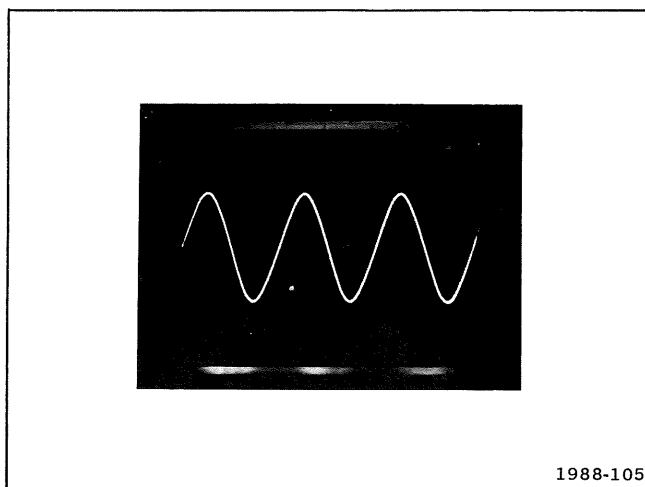

Figure 4-9. Waveform at TP 1234 on the power-supply Inverter board with the line voltage at about 20 volts.
6. If no burst waveform occurred in part 4, repeat part 1 of this step. Then remove the current probe from the 7104 and the test oscilloscope. Connect a 10X voltage probe from the test oscilloscope to TP1234 on the A23-Inverter board. Set the variable autotransformer for 20 volts and check for a line-ripple waveform which is about dc centered (see Fig. 4-9). If the waveform is not centered check Q1246, CR1232, CR1240, CR1249, and CR1245 for shorts or leakage.